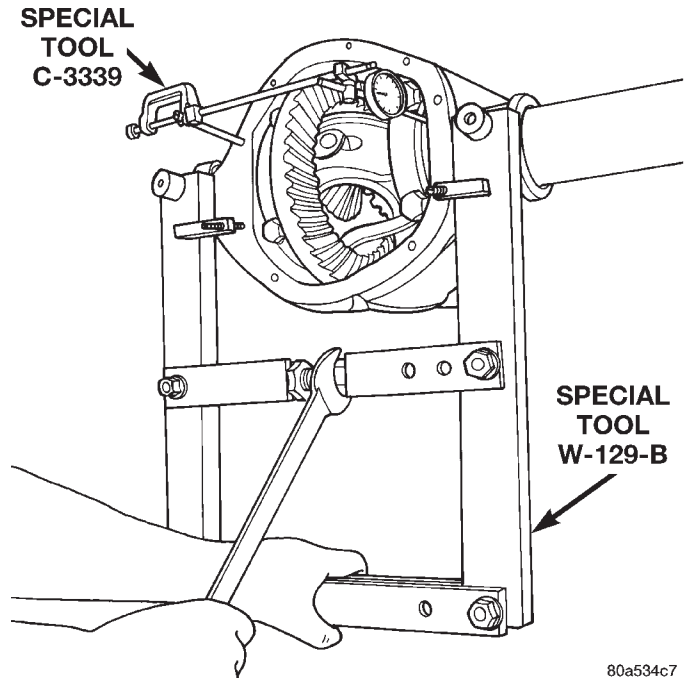

Fig. 18 Spread Axle Housing—Typical
- (11) Spread the housing enough to remove the differential case from the housing. Measure the distance with the dial indicator (Fig. 18).
- (12) Remove the dial indicator.
- (13) While holding the differential case in position, remove the differential bearing cap bolts and caps.
- (14) Remove the differential from the housing. Ensure that the differential bearing cups remain in position on the differential bearings.
- (15) Mark or tag the differential bearing cups to indicate which side of the differential they were removed from.
- (16) Remove spreader from housing.